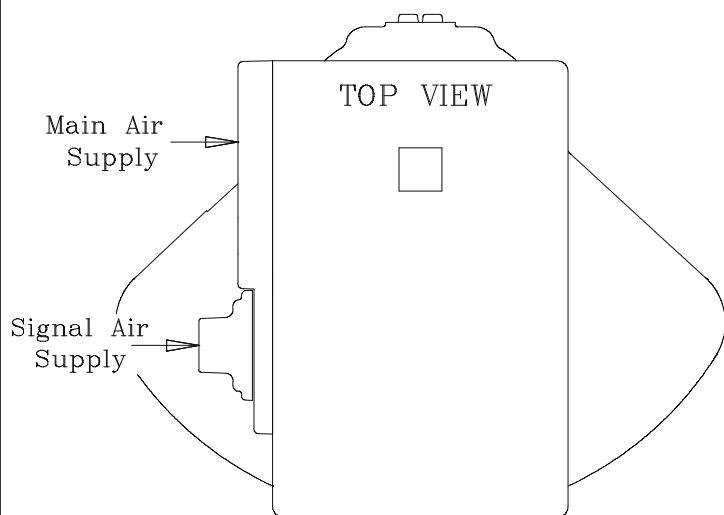

Figure 1. Mid Travel Orientation of Actuator Square and Positioner Box
2.1.1 Move actuator vane to mid travel position, with its output square as shown in Figure 1. This is advisable to prevent subsequent error in orientating positioner coupling. (This is not necessary with spring return actuators as there can be no confusion with square orientation).
2.1.3 Bolt the positioner body to the actuator in the orientation shown in Figure 1 taking care that the two O'rings are in place to seal the ports to the actuator (place a small amount of grease onto the O'rings to keep them in place) and that the actuator shaft is centred in the body.